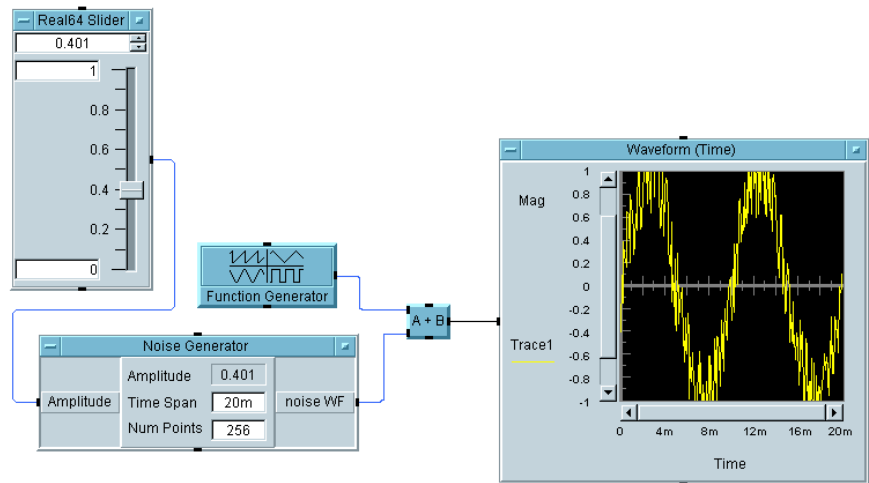

Figure 38 Example: Adding a Real64 Slider Object
- 3 Add a Real64 Slider object (**Data** ⇒ **Continuous** ⇒ **Real64 Slider**) and connect its data output pin to the Amplitude terminal, as shown in Figure 38. Run the program.